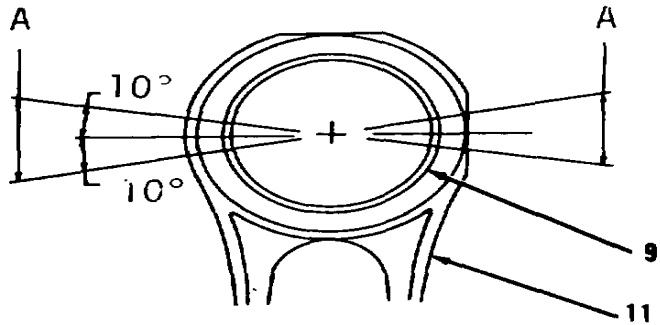

Figure 13-46.
1. Heat connecting rod (11, Figure 13-46) in oven to 300 to 350 degrees F.